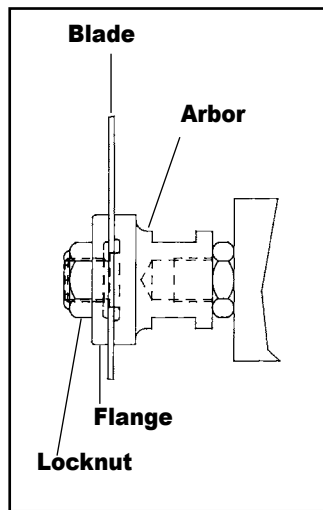

FIG. 2
- a. Standard Arbor - Install the blade on the 5/8 diameter arbor shoulder (Fig. 2). Install the flange with the relieved side toward the blade and screw on the locknut. While holding a wrench (supplied) on the 7/8 arbor flats, tighten the arbor locknut. The blade must seat fully on the arbor shoulder and flush against the face of the arbor.
from Fig. 2 and 3 at right.